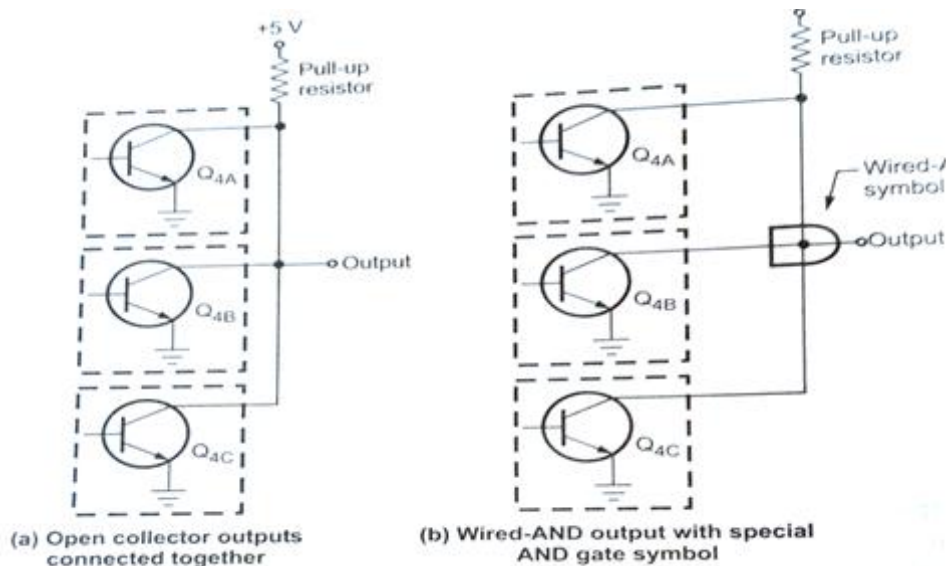

Figure 1.17
- As mentioned earlier, the open collector outputs of two or more gates can be connected together, as shown in the figure 1.17 (a).
- The connection is called a wired-AND and represented schematically by the special AND gate symbol as shown in figure 1.17 (b).